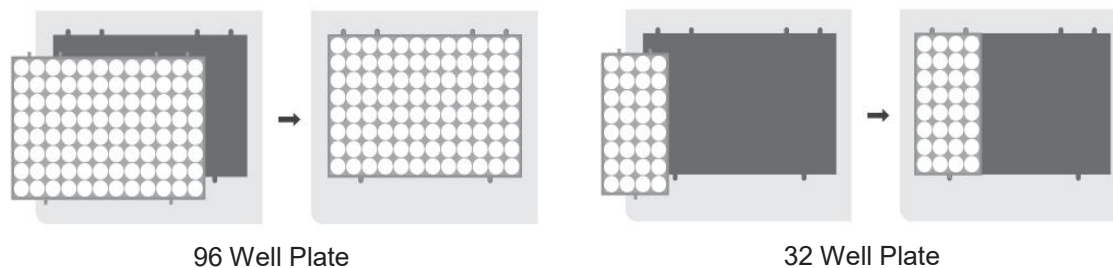

Figure 4: Positioning of the 96 or 32 well plates on the plate loader
8. Place the extraction plate on the plate loader. Note that the plastic cavities needs to fit in their position (Figure 4).